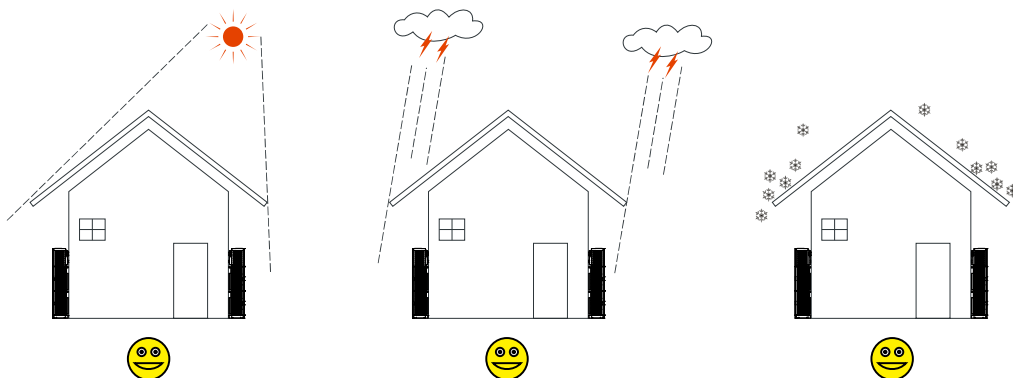

Figure3-2 Recommended installation environment
2. It is suggested to install the iStoragE B5-S1 product under shade as shown in Figure3-2 to max the iStoragE B5-S1 product lifespan and efficiency.